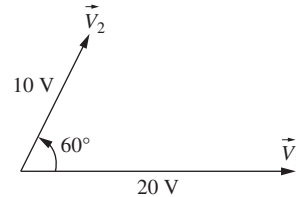

Figure P4.20 Voltages \vec{V}_1 and \vec{V}_2 for problem P4-20.
- 4-20.** In an electrical circuit, voltage \vec{V}_2 leads voltage \vec{V}_1 by 60° as shown in Fig. P4.20. Find the sum of the two voltages; in other words, find $\vec{V} = \vec{V}_1 + \vec{V}_2$.